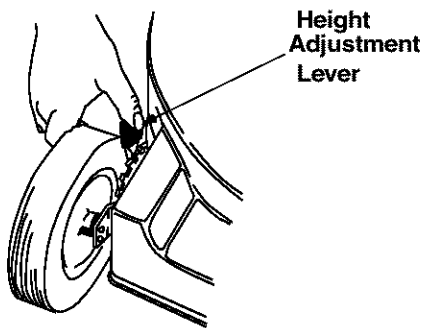

Figure 14
- Simply depress the lever towards wheel and move it to any of the nine positions for the desired cutting height. See Figure 14. All four levers on the four wheels must be placed in the same relative position for uniform cutting height.